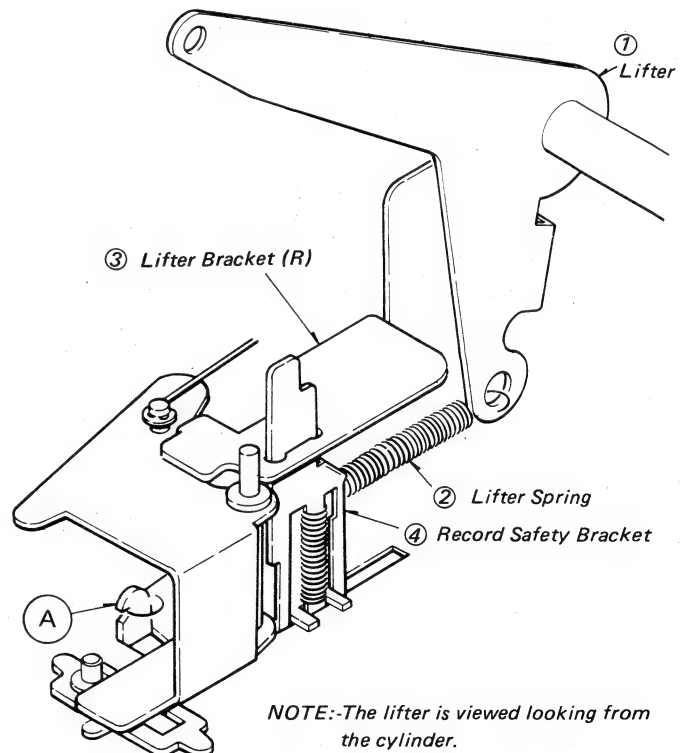

Fig. 5-22 Lifter Replacement.
(see Fig. 5-22)
3. Loosen the two screws holding the lifter bracket (L) looking toward the front panel.
4. Take the lifter (1) out of the lifter brackets (L) and (R) each, and place it in the position shown in Fig. 5-22.
5. Take the lifter spring (2) out of the hook (A).
6. Remove the lifter (1).
7. To replace the lifter (1), reverse Steps 1 through 6.